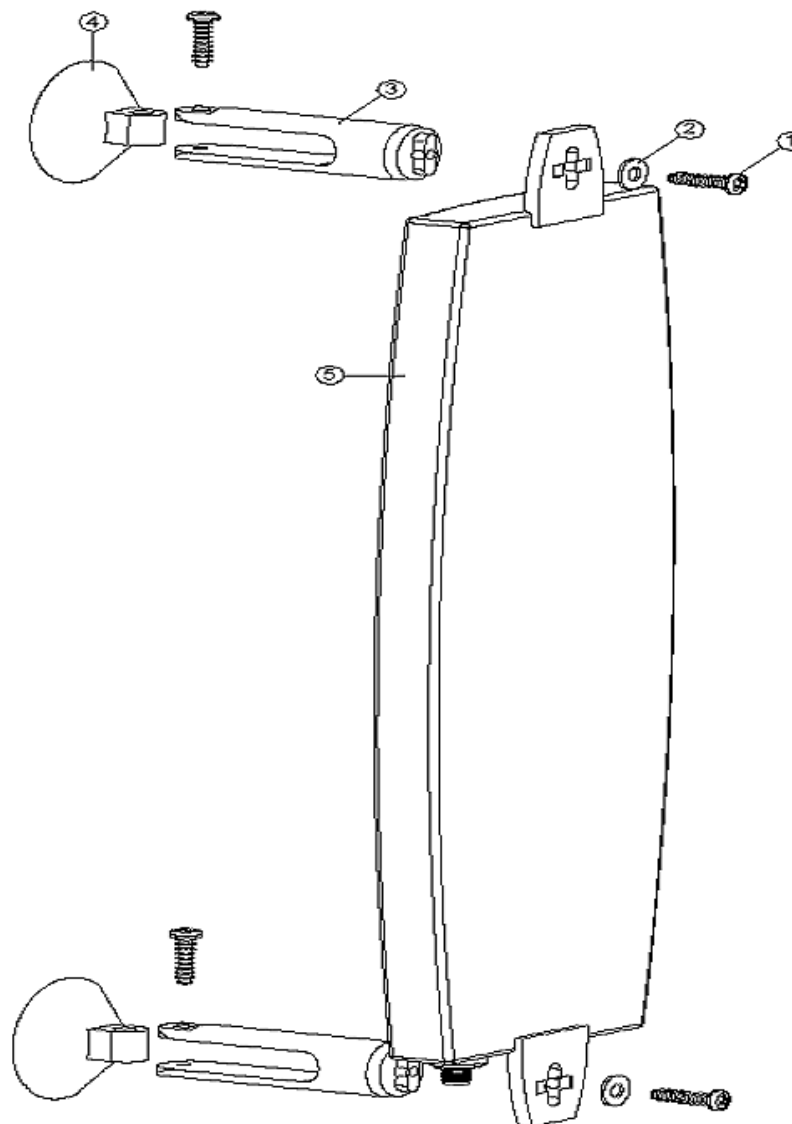

Figure 2-17: Window Mounting with Rotation Capability
- 1** Attach the rotation bars to the antenna and the suction cups to the rotation bars. Refer to Figure 2-17 for directions.